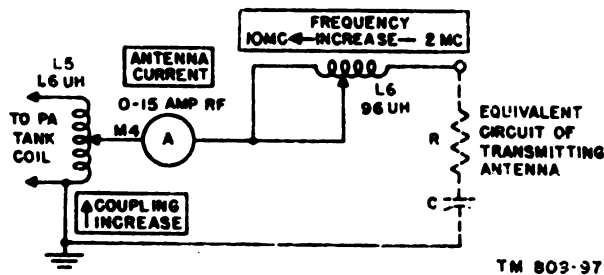

Figure 34. Antenna tuning unit with range switch in 2-10 M.C. position.
a. Figure 34 is a functional schematic diagram of the tuning unit with range switch SW9 (SW9.1 and SW9.2) set to 2-10 M-C and a whip antenna connected to the unit. Since the antenna is electrically much shorter than a quarter wave length, it presents a highly capacitive load to